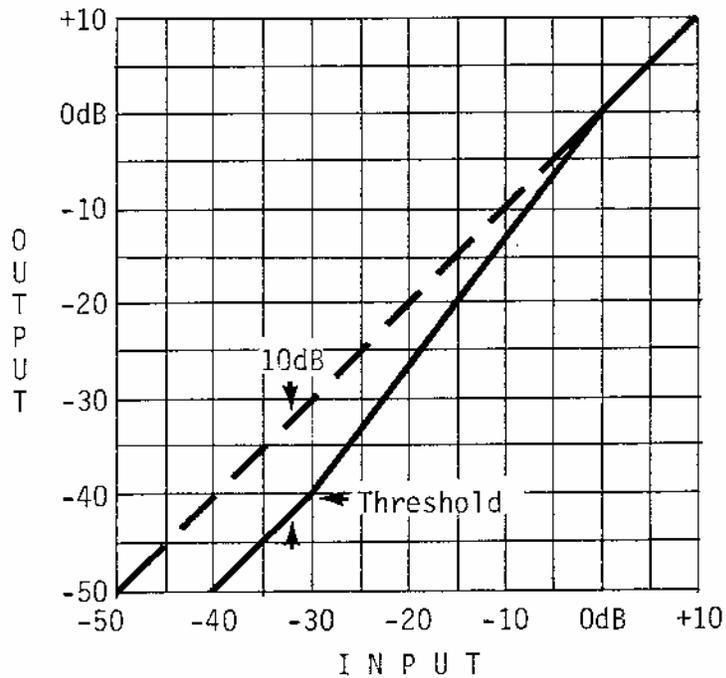

Fig. 1-2
**LINEAR EXPAND:** 10dB of broadband program attenuation with linear re-expansion to unity gain beginning at Threshold (Fig. 1-2).
In this fourth DYNEX operating mode, broadband gain is reduced by a fixed 10dB, and linearly re-expanded to unity beginning at the Threshold setting. Although the Broadband Expansion mode is useful in the suppression of many forms of noise, the primary utility of this mode is the restoration of dynamic range to previously compressed program material. The expansion curve is shown under DYNEX Specifications in Fig. 1-2.